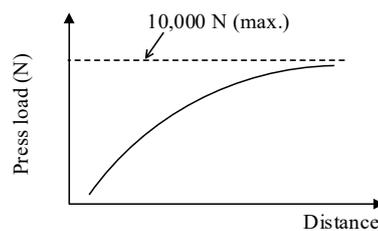

Figure 10 Maximum Press Load
- Maximum press load: $\leq 10,000 \text{ N}$ (See Figure 10)